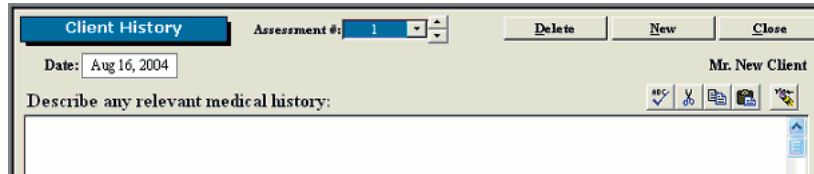

Figure 4-4. Blank Notes Screen
Step 4. Click **Cancel Edit** and then select the template you just viewed. This will bring you to the corresponding screen (Figure 4-4).